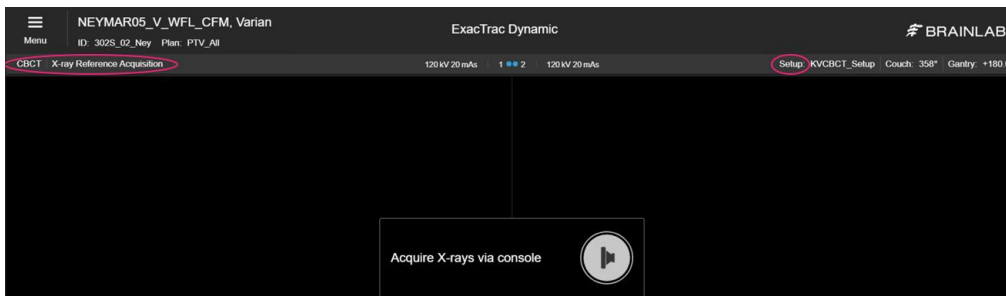

Figure 3: The display of the CBCT X-ray Reference Acquisition page with a setup beam selected.
- The user starts the CBCT offset detection by acquiring X-ray images on the CBCT X-ray Reference Acquisition page while a setup beam is active on the LINAC, as shown in Figure 3